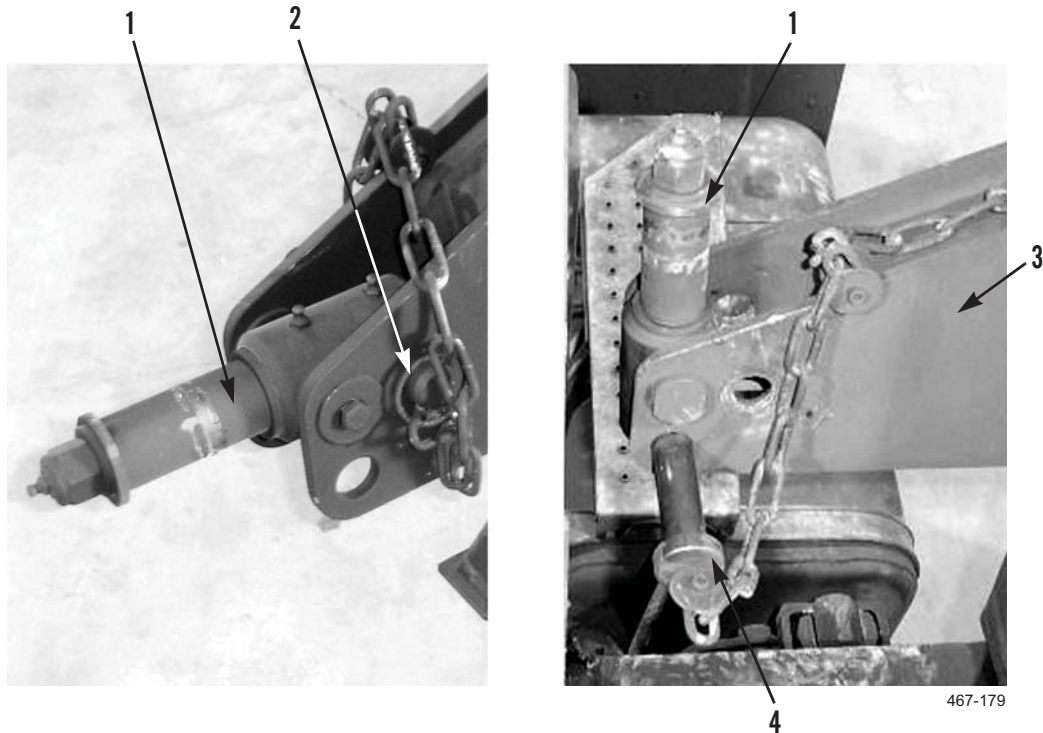

Figure 13. Reposition Stowage Roller Locking Pins.
12. Remove clip pin (Figure 13, Item 2) from locking pin (Figure 13, Item 4).
13. Remove locking pin (Figure 13, Item 4) from stowage roller (Figure 13, Item 1) and rotate stowage roller to horizontal position.
14. Install stowage roller locking pin (Figure 13, Item 4) in outside position on locking plate (Figure 13, Item 3).
15. Install clip pin (Figure 13, Item 2) in locking pin (Figure 13, Item 4).